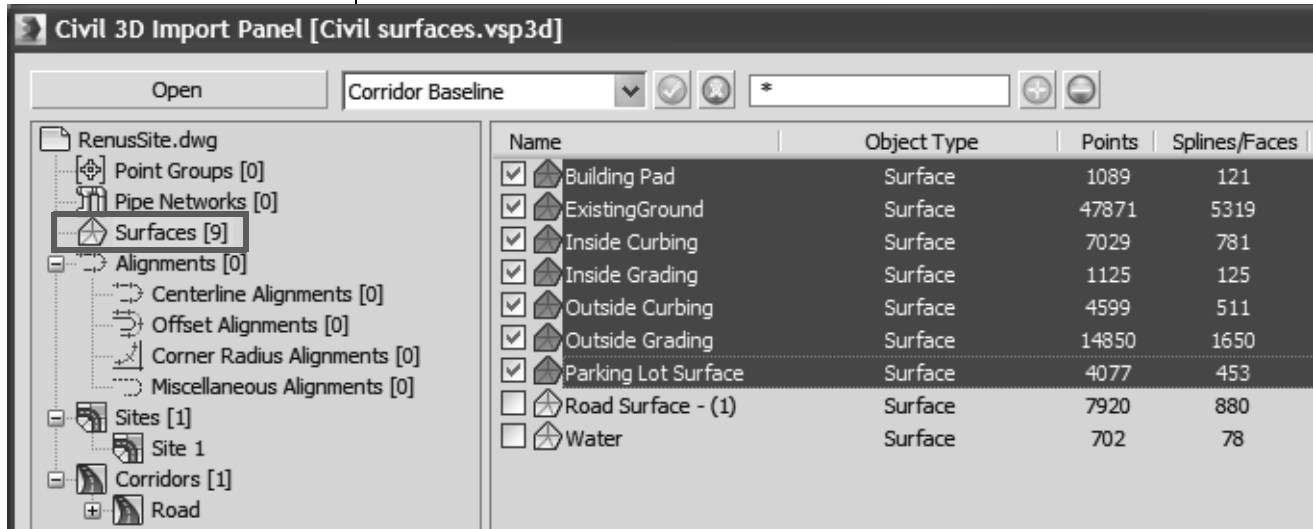

Figure 3–4
- You will select the corridor surfaces and the baseline. In the left pane, select **Corridors [1]** and in the right pane, select **PrimaryAccess**, **Region(1)**, **Region(2)**, and **Region(3)**, as shown in Figure 3–5.